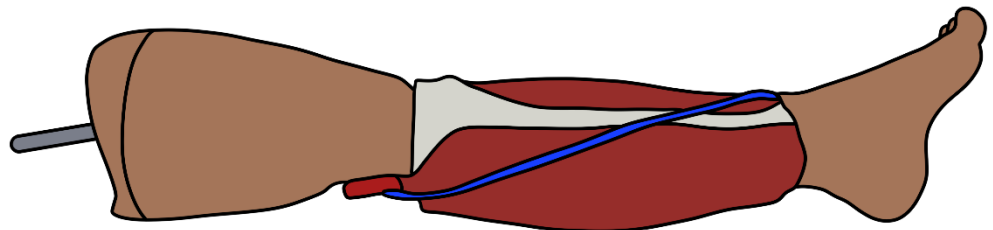

Figure 14. Attaching Lateral and Anterior Muscle Compartments
- iii. Lateral Compartment (#3) and Anterior Compartment (#4) will be attached to anchor point #3 and #4 on the top and peg #3 and #4, respectively (**Figure 14**). Make to fit the fibular head through the opening in the lateral muscle compartment.